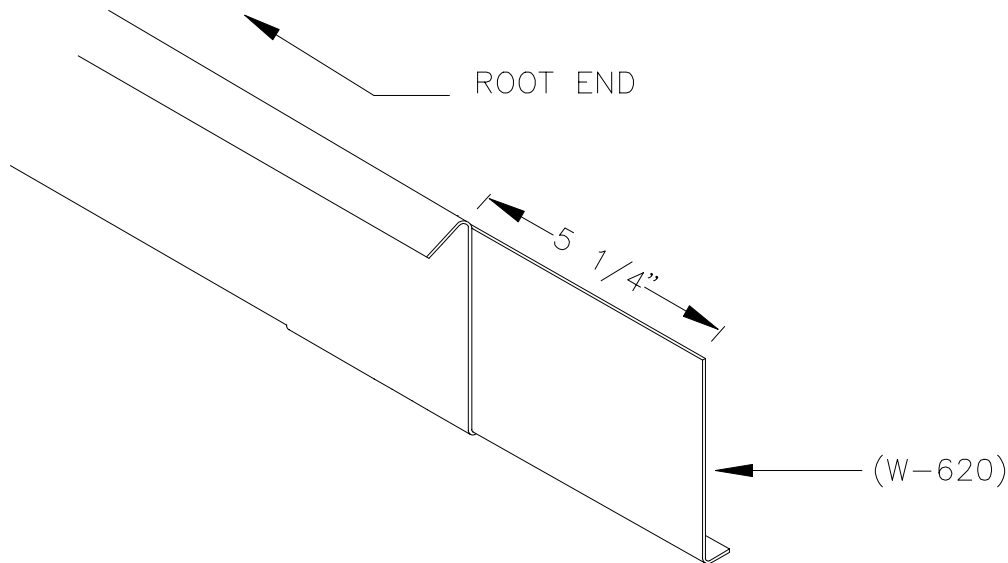

Figure 8.4.3
4) Position the W-620 Rear Spar Extension Bottom as in Figure 8.4.3.